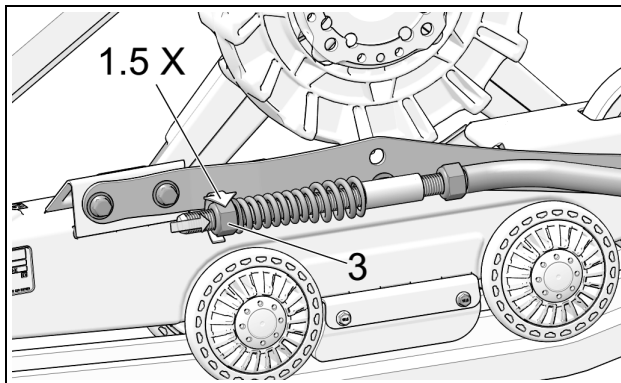

Figure 11
- Turn nut (3) until it comes in contact with spring, then compress spring by rotating nut 1 1/2 turns. See Figure 11.